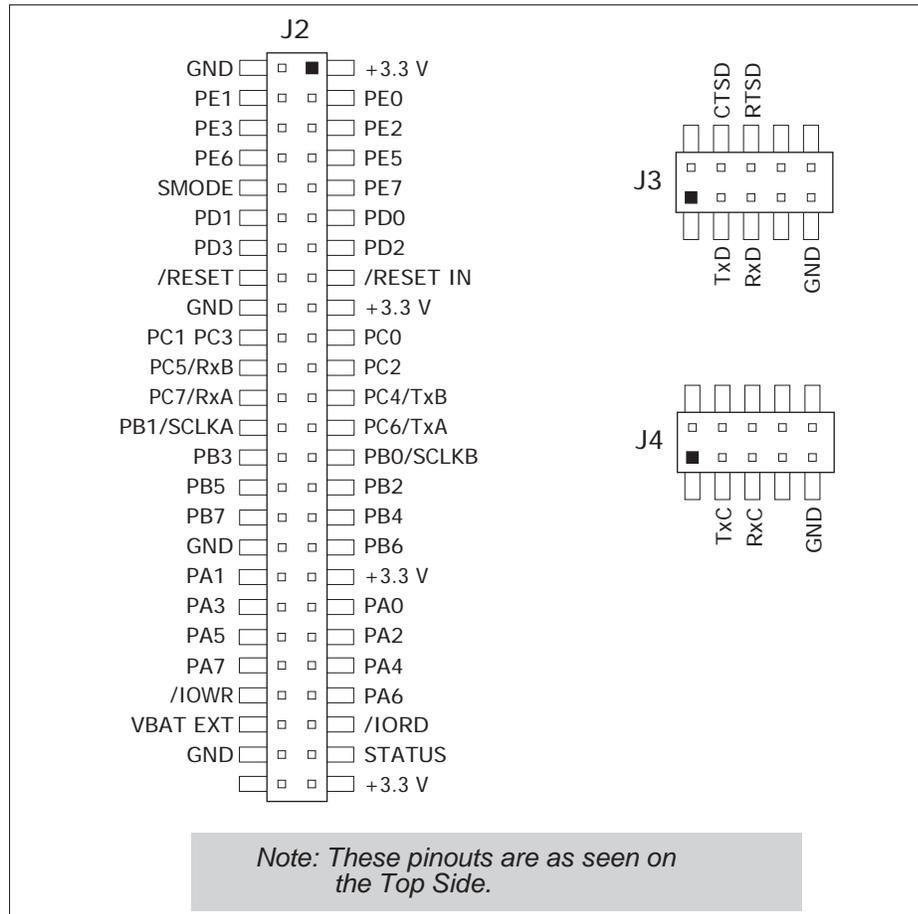

Figure E-4. Serial Communication Accessory Board Pinout
- **Module Extension Headers**—The complete pin set of the RCM5600W/RCM6600W module is duplicated below header J2. Developers can solder wires directly into the appropriate holes, or, for more flexible development, a 2 × 25 header strip with a 0.1" pitch can be soldered into place. See Figure E-4 for the header pinouts.
The Serial Communication accessory board provides the user with RCM5600W/RCM6600W connection points brought out conveniently to labeled points below header J2. The pinouts for header socket J2 and the RS-232 headers at J3 and J4 are shown in Figure E-4.